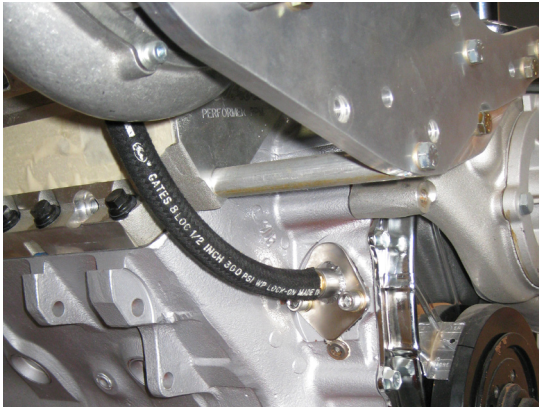

Fig. 4.1-a
- B. Install the plate and gasket using two supplied 3/8-16 x .75" bolts and washers onto the port located on the front passenger side of the block, just behind the water pump. Fig. 4.1-a